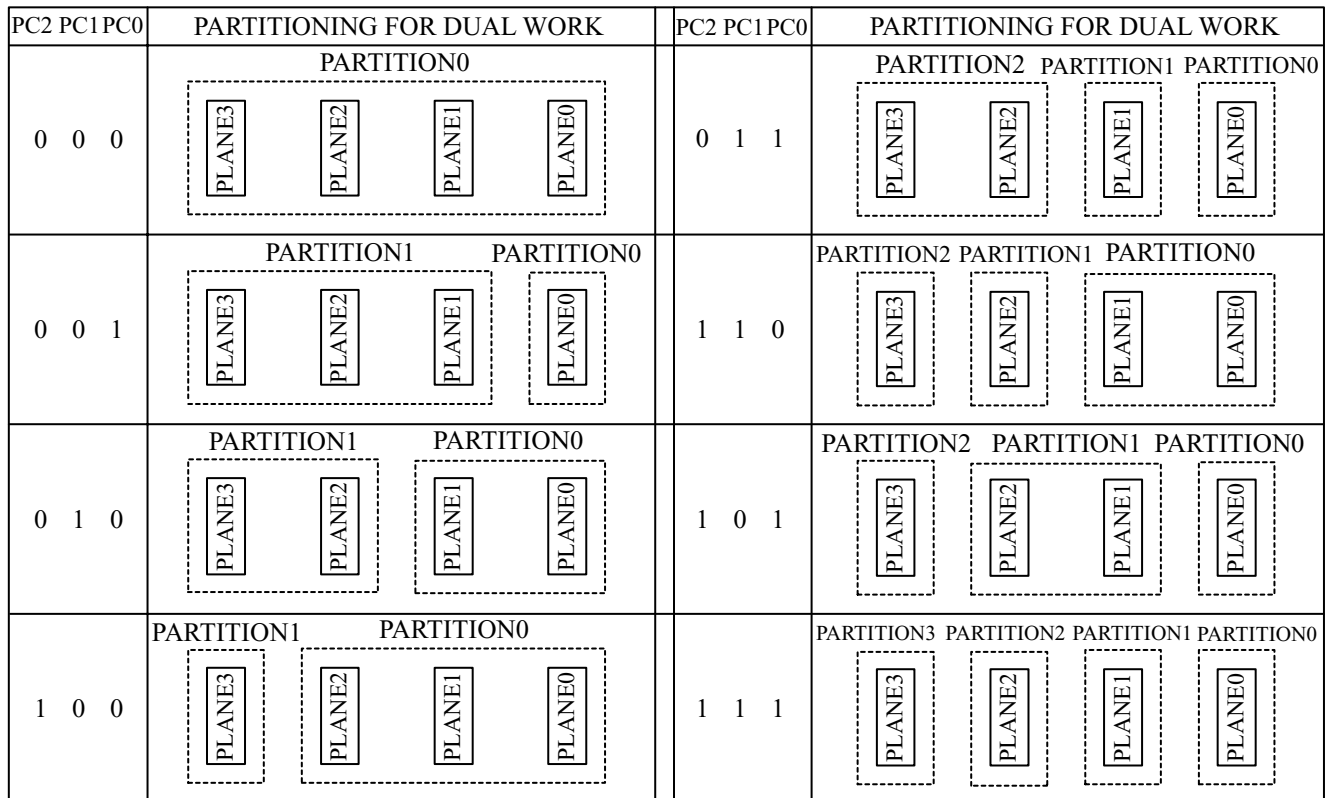

Figure 4. Partition Configuration
| <p>PCR.15-11 = RESERVED FOR FUTURE ENHANCEMENTS (R)</p> <p>PCR.10-8 = PARTITION CONFIGURATION (PC2-0)</p> <p>000 = No partitioning. Dual Work is not allowed.</p> <p>001 = Plane1-3 are merged into one partition. (default in a bottom parameter device)</p> <p>010 = Plane 0-1 and Plane2-3 are merged into one partition respectively.</p> <p>100 = Plane 0-2 are merged into one partition. (default in a top parameter device)</p> <p>011 = Plane 2-3 are merged into one partition. There are three partitions in this configuration. Dual work operation is available between any two partitions.</p> <p>110 = Plane 0-1 are merged into one partition. There are three partitions in this configuration. Dual work operation is available between any two partitions.</p> <p>101 = Plane 1-2 are merged into one partition. There are three partitions in this configuration. Dual work operation is available between any two partitions.</p> | <p>111 = There are four partitions in this configuration. Each plane corresponds to each partition respectively. Dual work operation is available between any two partitions.</p> <p>PCR.7-0 = RESERVED FOR FUTURE ENHANCEMENTS (R)</p> <p>NOTES:</p> <p>After power-up or device reset, PCR10-8 (PC2-0) is set to "001" in a bottom parameter device and "100" in a top parameter device.</p> <p>See Figure 4 for the detail on partition configuration.</p> <p>PCR.15-11 and PCR.7-0 are reserved for future use and should be masked out when checking the partition configuration register.</p> |